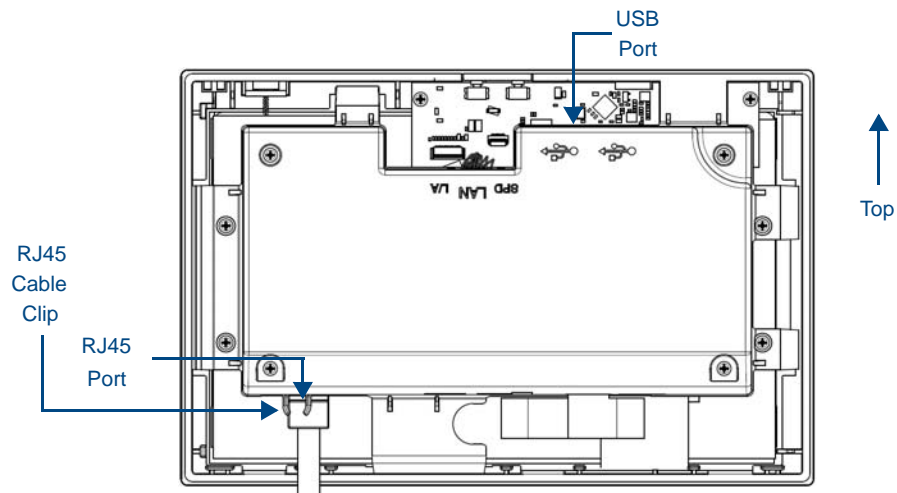
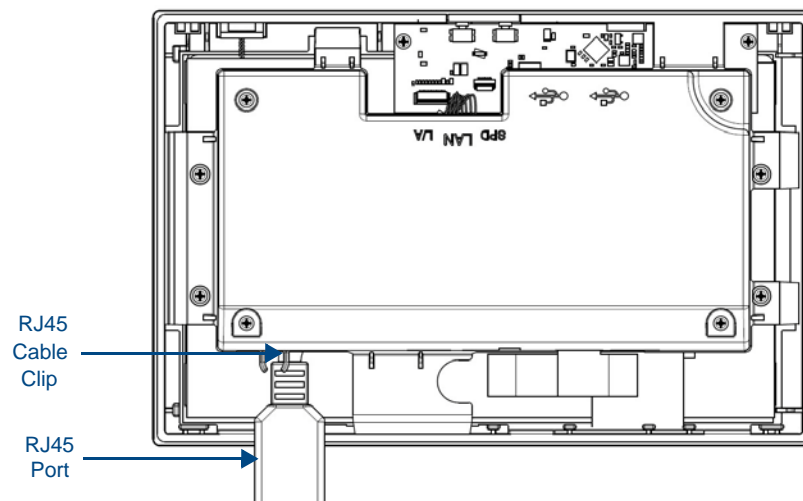

FIG. 13 Rear of the MXD-700 (Landscape)
FIG. 14 Rear of the MXD-700 (with RJ45 connection extended)
Power for the MXD-700 is supplied via Power Over Ethernet (PoE), utilizing an AMX-certified, capacitive touch-compliant PoE injector or other approved AMX PoE power source. The incoming Ethernet cable should be connected to the RJ45 port on the MXD-700 (FIG. 13 and FIG. 14).
10. Insert each connector into its corresponding location along the back of the device (FIG. 13). To reach the RJ45 connector, gently pull it from beneath the electronics cover (FIG. 14). Attach the Ethernet cable and gently push the connection back under the cover.